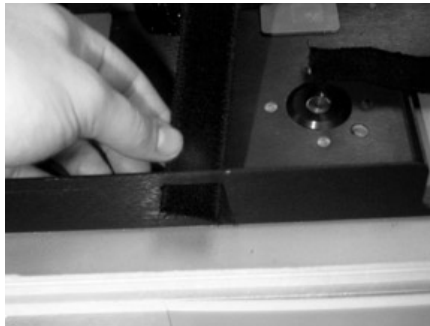

Figure B-7: Slip Velcro Strap Through Slot in Bracket
- Slip the free end of the Velcro strap through the slot on the DUSTTRAK monitor portion of the main bracket (see Figure B-7).